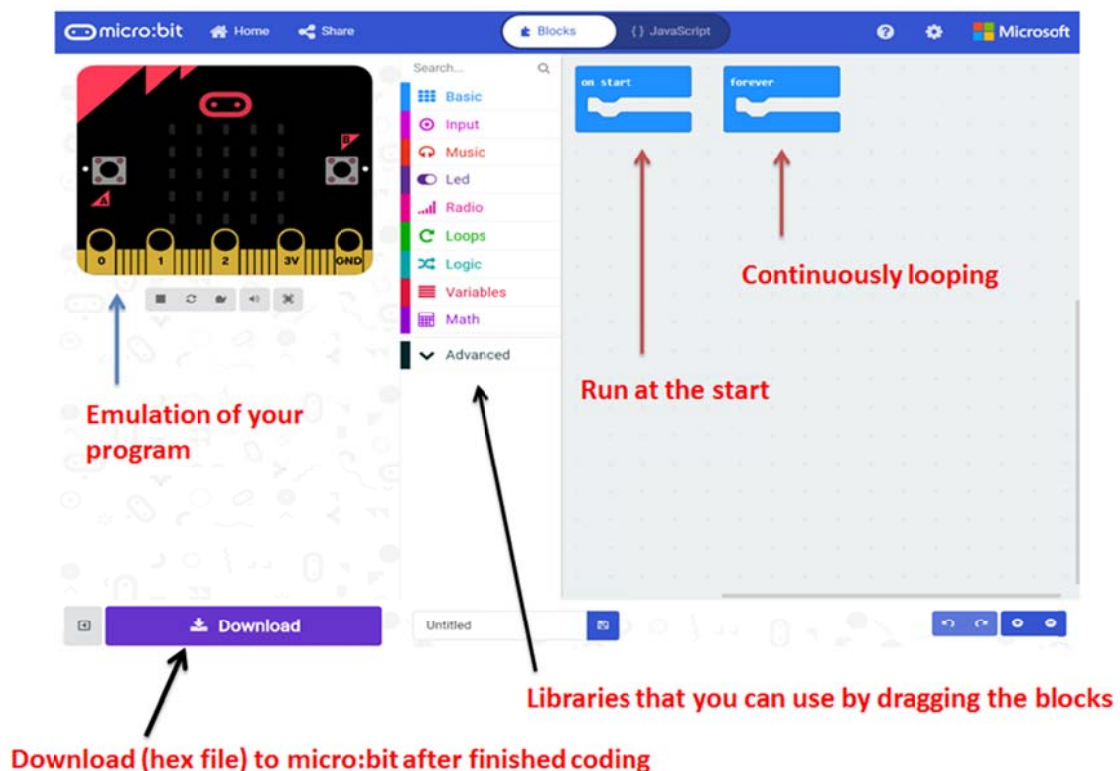

Fig. 7. User Screen in **MakeCode**
3. Select “New Project”, you will see the following user screen (Fig. 7), and can then start programming.